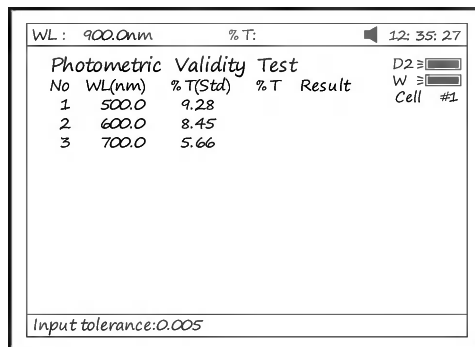

Fig 93
- Press **【F3】** to set tolerance (Fig 93). Input the value by pressing the numeric keypad.